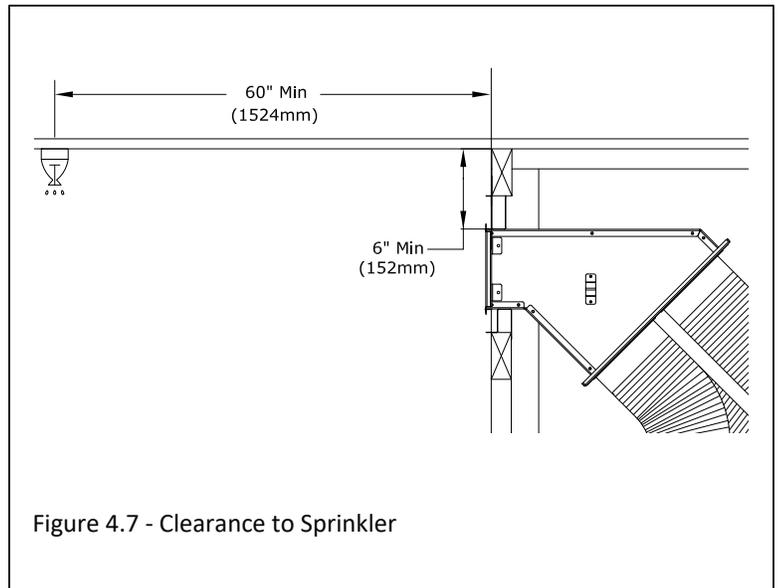

Figure 4.7 - Clearance to Sprinkler
- Figure 4.7 shows a side KZK whereas your installation may look different.